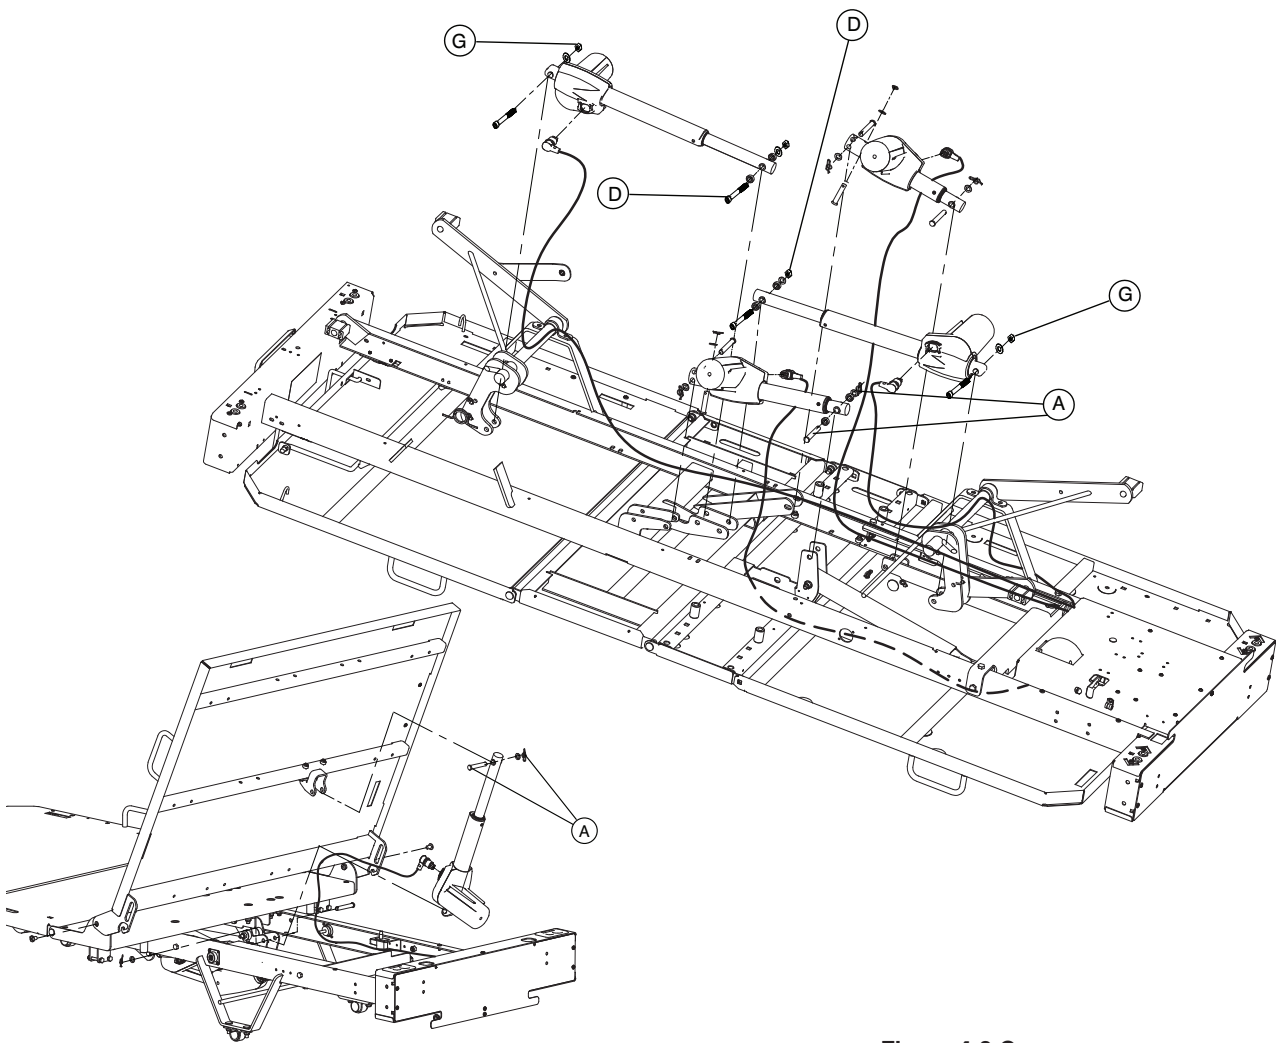

Figure 4.3 C
7. Using needle nose pliers, remove the rue ring cotters, washers and clevis pins (A, Figure 4.3 C, pg. 53 ) linking the head actuator tube to the section lever arms.